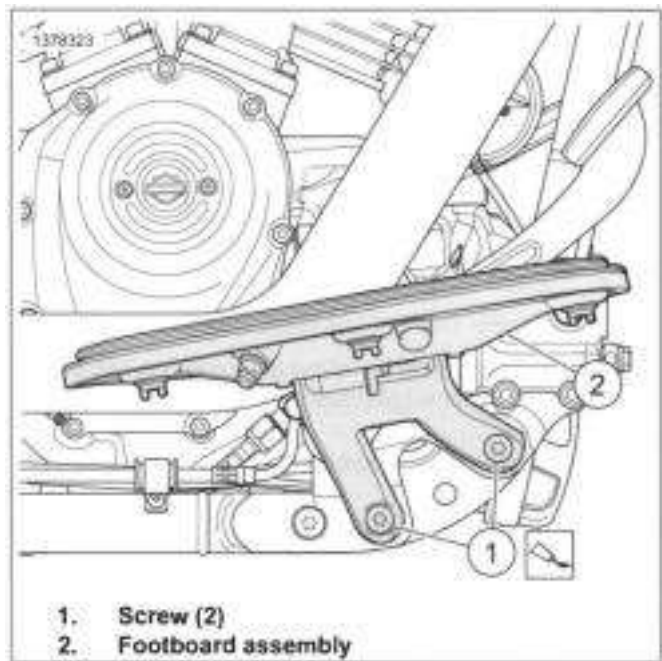

Figure 3-153. Right Footboard
1. See Figure 3-153. Remove footboard assembly.
- a. Remove screws (1).
- b. Remove footboard assembly (2).
- e. Install rear brake master cylinder clevis pin (8). See REAR BRAKE MASTER CYLINDER (Page 3-42).
- f. Install rear master cylinder bracket (5). See REAR BRAKE MASTER CYLINDER (Page 3-42).
2. See Figure 3-153. Install footboard assembly.
- a. Apply threadlocker to screws (1).